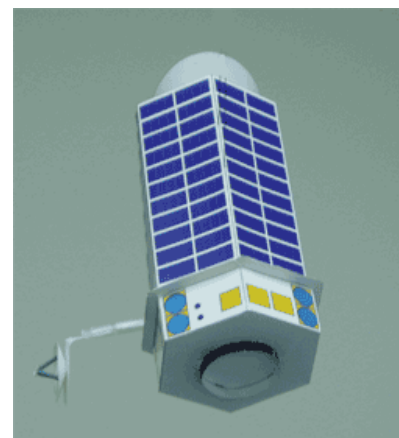

Figure 7.
- Patiently, jiggle it until all 4 tabs come out of the bottom of the base. Apply glue to the outer facing surface of these 4 tabs. Apply glue to the inner surface of part 23 at the 4 tab locations. Slip the 4 tabs of part 23 into the same 4 slits that the tabs from the collar are coming out of, with part 23 on the outside of the photometer collar tabs. Press the tabs against part 23 and make sure they are well glued. Finally add glue to the overlapping end of part 23 to form a ring. See Figure 7.